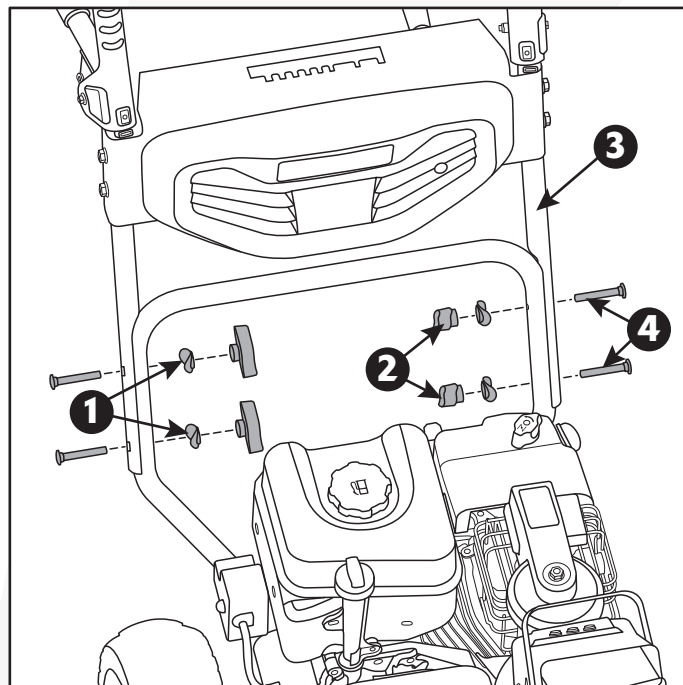

Fig. 2D
5. Connect the control panel assembly to the lower handle assembly with bolts, washers and locking knobs. (Fig. 2D)